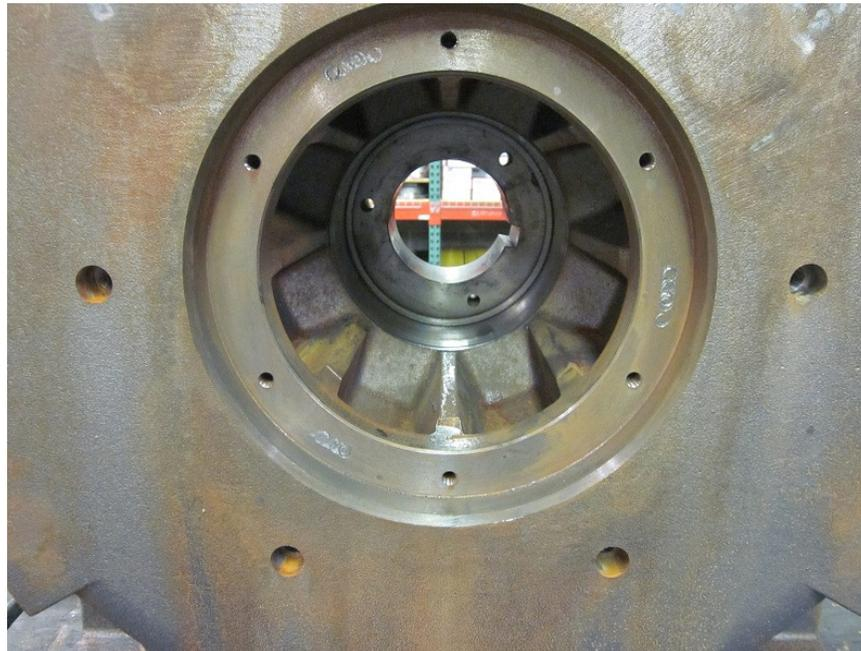

Figure 11
- With the retaining ring removed, the shaft can now be pressed out. Begin actuating the hydraulic jack that was placed at the front of the machine, and slowly press the shaft out through the rear of the machine with the jack. It will require 3"-4" of travel before the shaft and bearing are free of the rotor and machine housing. As the travel approaches 3", begin supporting the rear of the shaft to prevent it from falling from the machine housing once it is completely freed from the rotor and machine housing. Also support the hydraulic jack to prevent it from falling. Once the shaft is free of the rotor and machine housing, the pressure holding the jack in place will be released, allowing the jack to fall if not supported properly. Figure 10 shows the rear of the machine with the shaft laying loosely in the machine housing, and Figure 11 shows the shaft and bearing assembly completely removed from the machine.